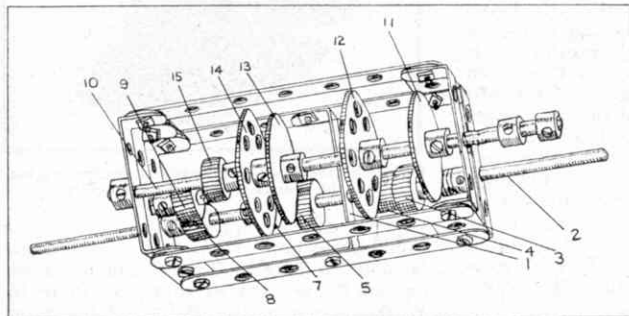

Fig. 3. L. Wilson, Bristol, is the designer of this three-speed and reverse gear-box. In this illustration bottom gear is shown in engagement.
L. Wilson, Bristol, has designed a useful three-speed and reverse gear-box, which I am illustrating in Figs. 3 and 4 on this page. The illustrations are reproduced from original sketches prepared by Wilson.